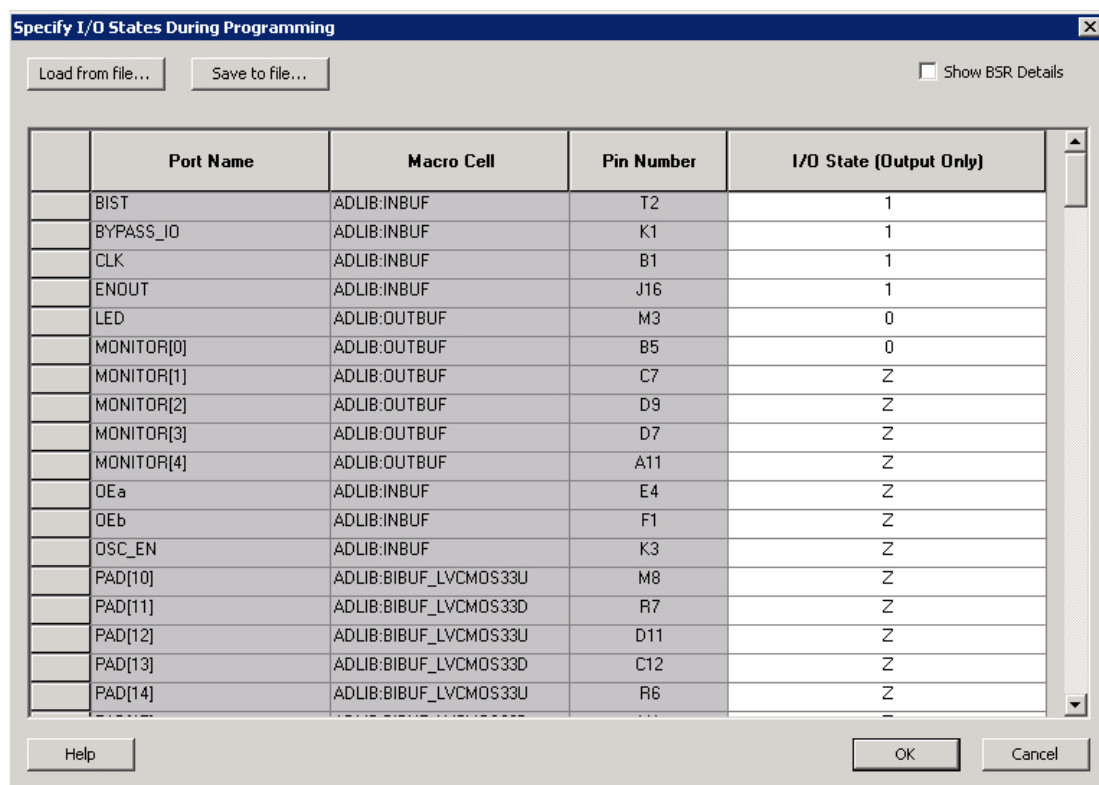

Figure 1-7 • I/O States During Programming Window
4. Sort the pins as desired by clicking any of the column headers to sort the entries by that header. Select the I/Os you wish to modify (Figure 1-7 on page 1-9).